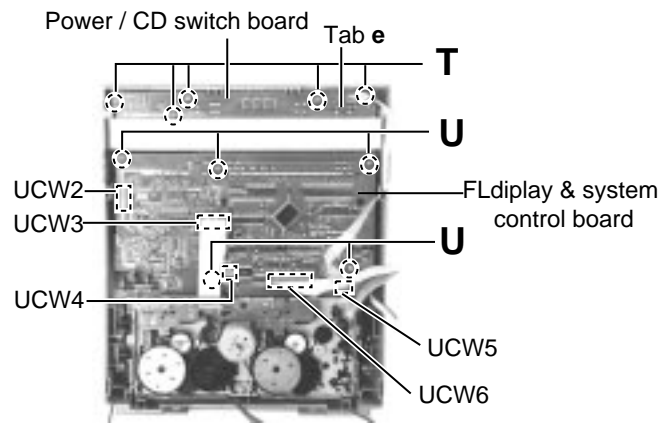

Fig.22
■ Removing the power / CD switch board (See Fig.22)
■ Removing the FL display & system control board (See Fig.22 and 23)